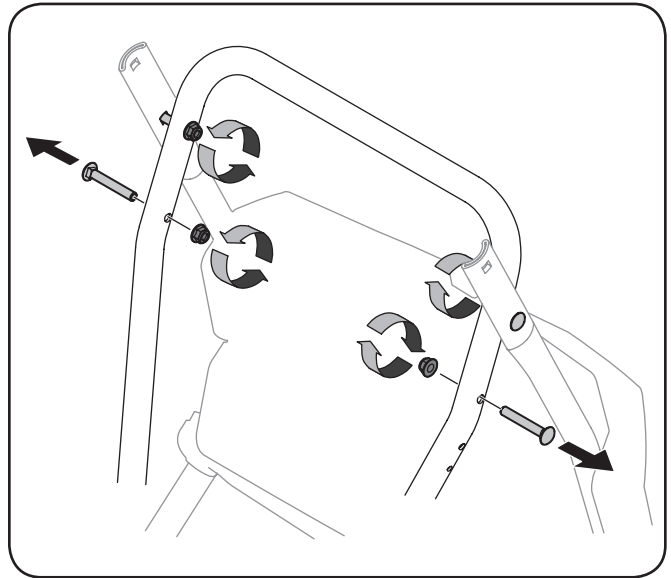

Figure 3-11
1. Loosen the top two lock nuts securing the upper and lower handle and remove the two carriage screws from the lower handle and set aside as shown in Figure 3-11.